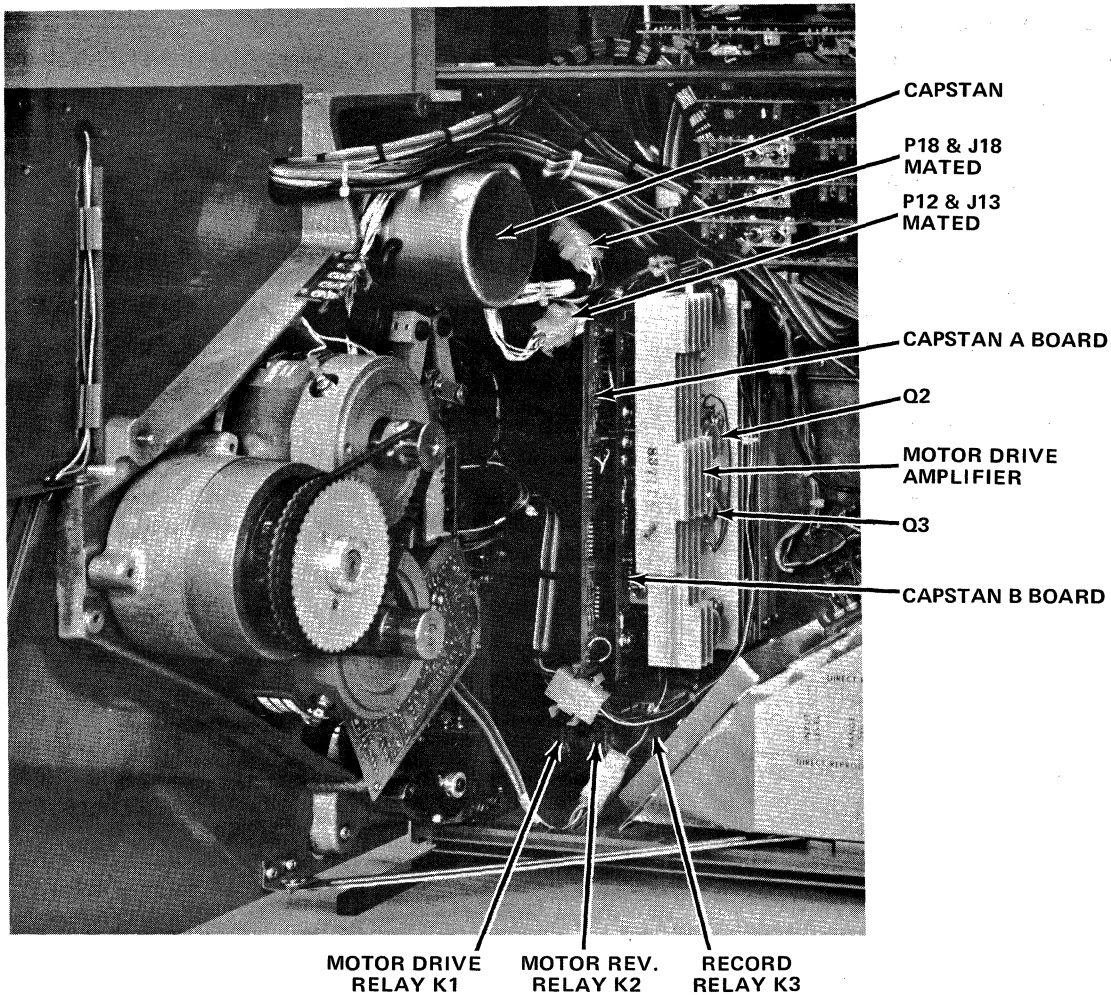

Figure 11-3. Component Location for Speed Control
- Step 2. If the light does not light during an operate mode, check for +5 vdc at pin 31 on remote connector J2 (See Figure 11-3 for pin identification). No voltage indicates a faulty power supply.
- Step 7. Check the logic level at pin B. Access to this point may be gained at the junction of resistors R17 and R18 (See Figure 11-7). This point should measure +6 vdc in the RECORD mode. If not, check relay K3 (See Figure 11-3). If the logic level is correct but no bias signal was present in the above step, troubleshoot the bias circuits on the capstan A board.